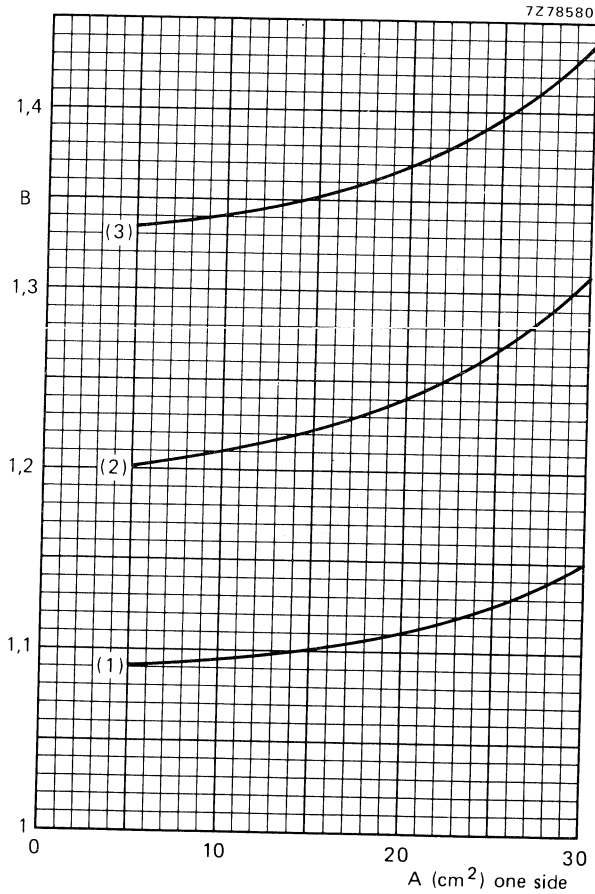

Fig. 1 Multiplication factor (B) as a function of heatsink area (A).
- Multiply by the factor given in Fig. 1 as a function of the heatsink size A.